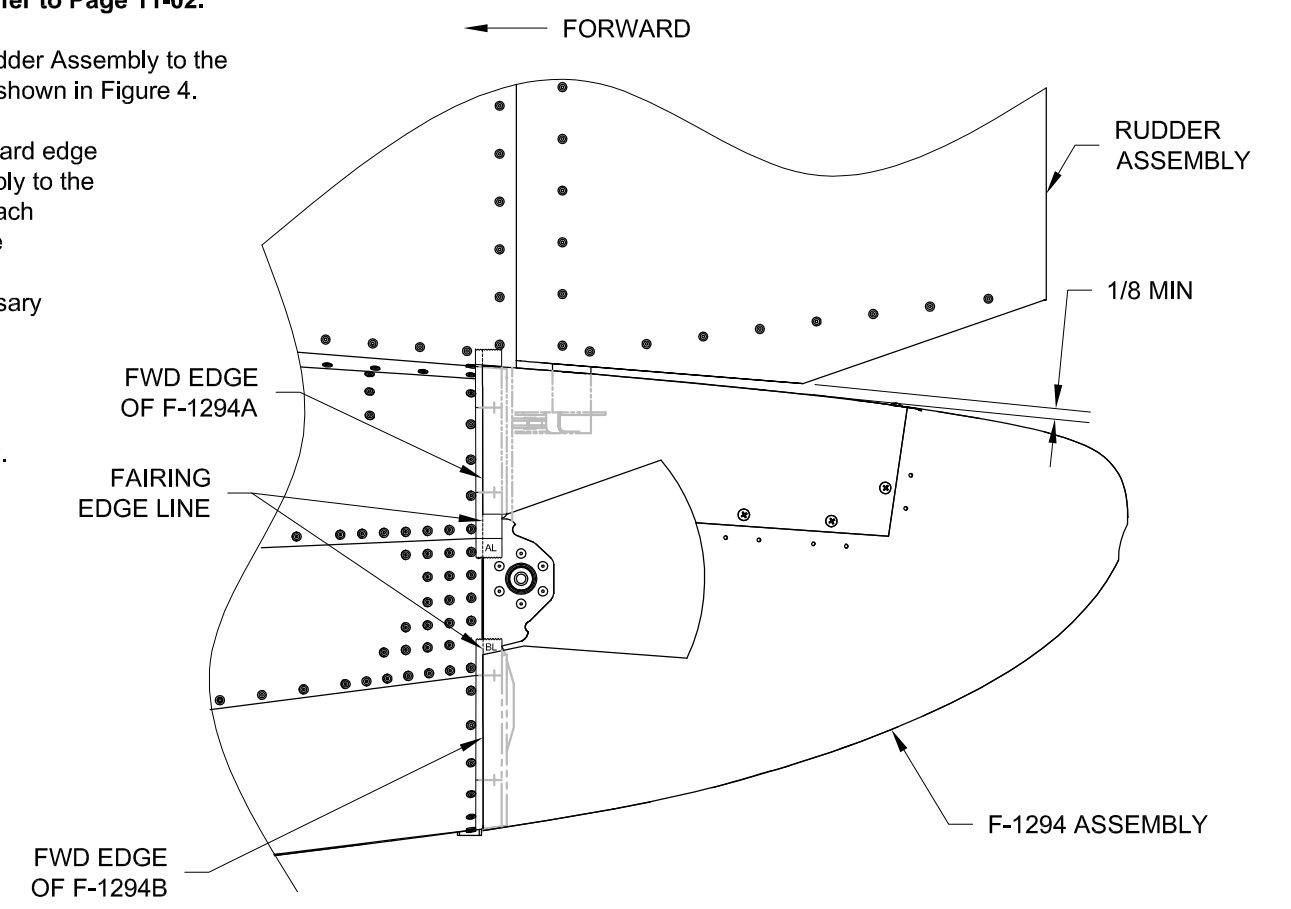

**FIGURE 3:**
**Step 5:** Trim the aft slot to the scribe line in the F-1294B Lower Tailcone Fairing by removing the material shown hatched in Figure 3.
**Step 6:** Attach the F-1294A Upper Tailcone Fairing to the F-1294B Lower Tailcone Fairing using the hardware called out in Figure 3.